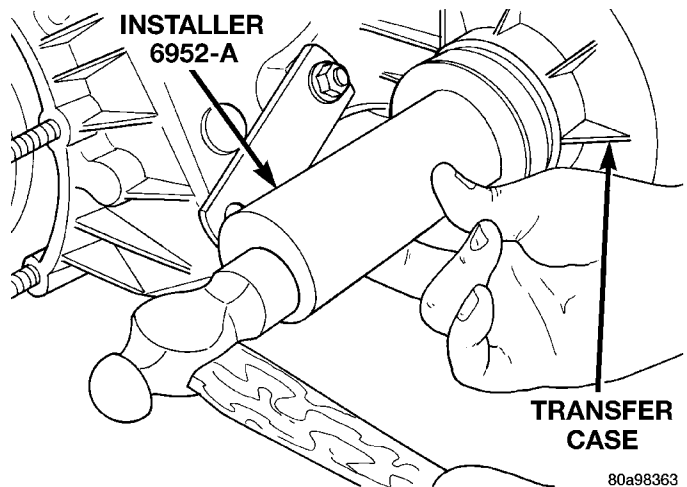

Fig. 51 Install Front Output Shaft Seal
(5) Install new front output shaft oil seal with Installer 6952-A (Fig. 51).